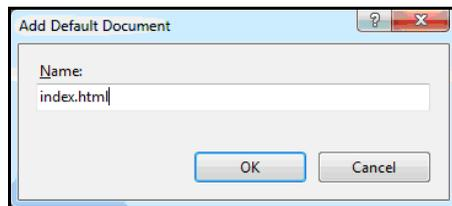

FIGURE 2-12 Add Default Document
Step 20 If **index.html** is not present, click **Add** and in the **Add Default Document** dialog box, type **index.html** and then click **OK**, as shown in FIGURE 2-12.